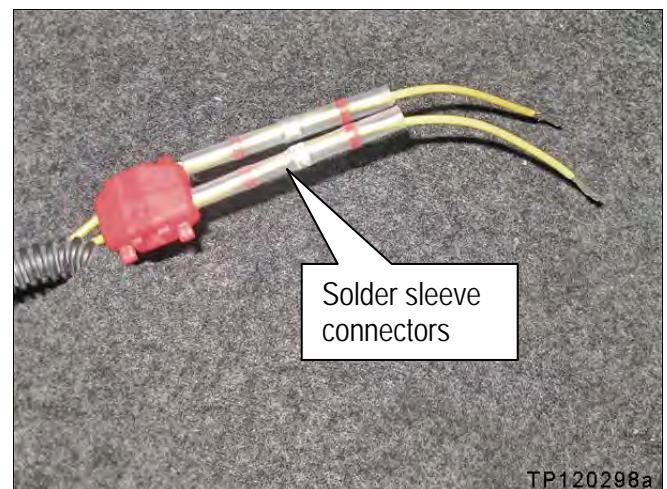

Figure CR13
10. Slide solder sleeve connector onto the SAB harness wires as shown in Figure CR13.